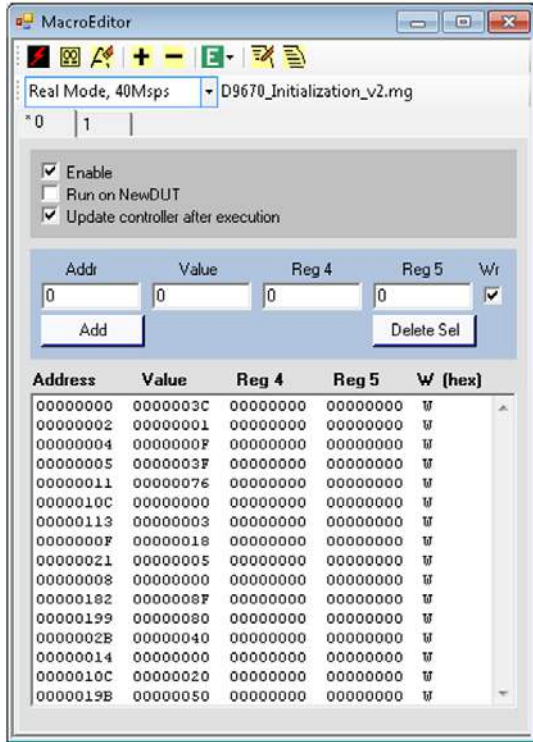

Figure 4. MacroEditor Window and D9670\_Initialization\_v2.mg Dropdown Box
6. In the main SPIController window, open the **File** menu and click **Open Macrogroup**. Select the AD9670\\_Initialization.mgp macro file to open the **MacroEditor** window shown in Figure 4. The macro file is an **.XML** file that lists the serial peripheral interface (SPI) command macros in the D6970\\_Initializaion\\_v2.mg dropdown box (see Figure 4). Each command macro includes SPI writes that configure the AD9670 for specific operating modes. The **MacroEditor** conducts a batch write of SPI registers to set up the AD9670. The macro file contains the following two macros: **Real Mode, 40Msps** and **IQ Mode, 40Msps**. It is possible to add unique configuration macros to the **.XML** macro file and load the macros into the **MacroEditor** window.
- To enable the demodulator and decimator, select and run the **IQ Mode, 40Mpsps** macro in the **MacroEditor** window (see Figure 4).